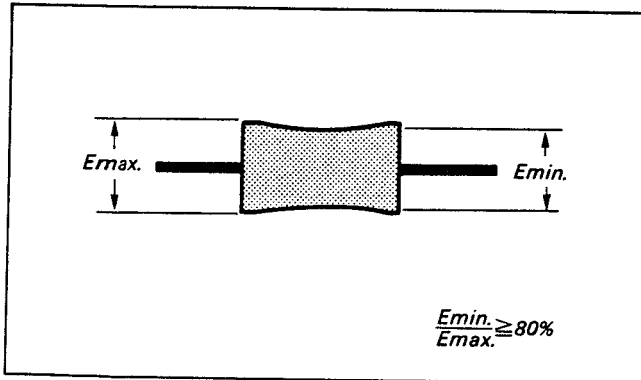

Fig. 4-18
- 3) Confirm that the RF waveform amplitude minimum value (E min) at this time is more than 80% of maximum value (E max.). (Fig. 4-18)
- 4) Check that the fluctuation amount of RF waveform entrance and exit sides both is as shown in Fig. 4-18.